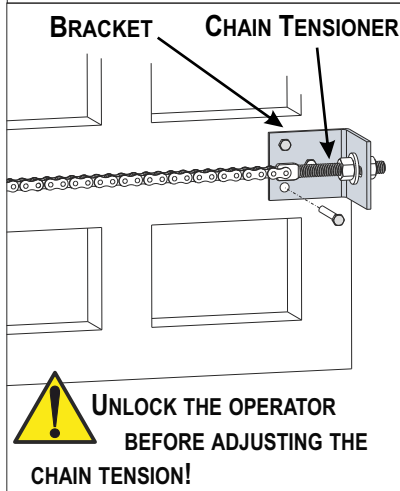

Fig. 20
**7.1.** Secure two sturdy brackets at the two extremities of the gate for attaching the chain - Fig. 20
**7.2.** Install a chain tensioners on each bracket to adjust the chain tension - Fig. 20